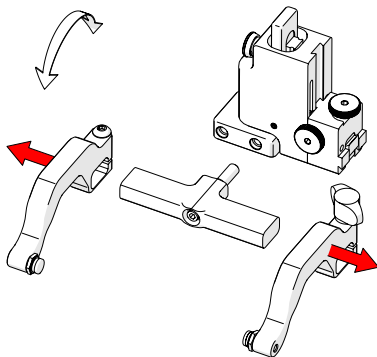

Fig. 201 - Remove probe holder arms
3. Loosen the arm clamp screw and probe holder arm adjustment knob allowing removal of the probe holder arms (*Fig. 201*).